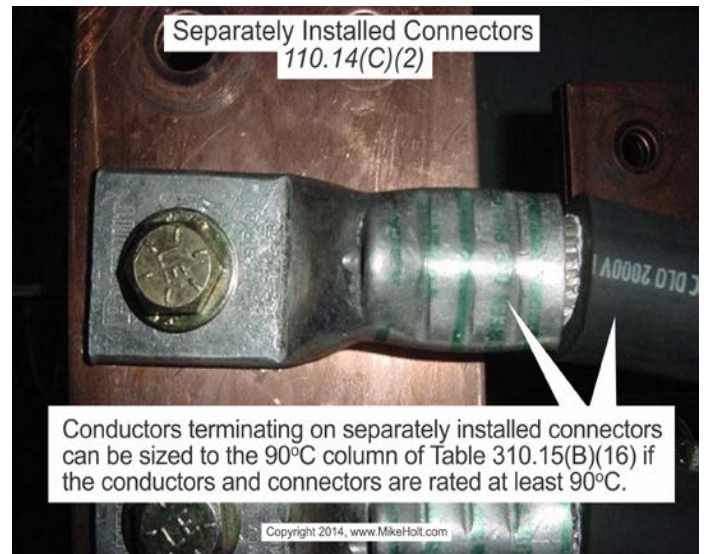

Figure 6-16
The 90°C ampacity column of Table 310.15(B)(16) can be used for separately installed connectors if the conductor and terminals are rated at least 90°C. **Figure 6-16**